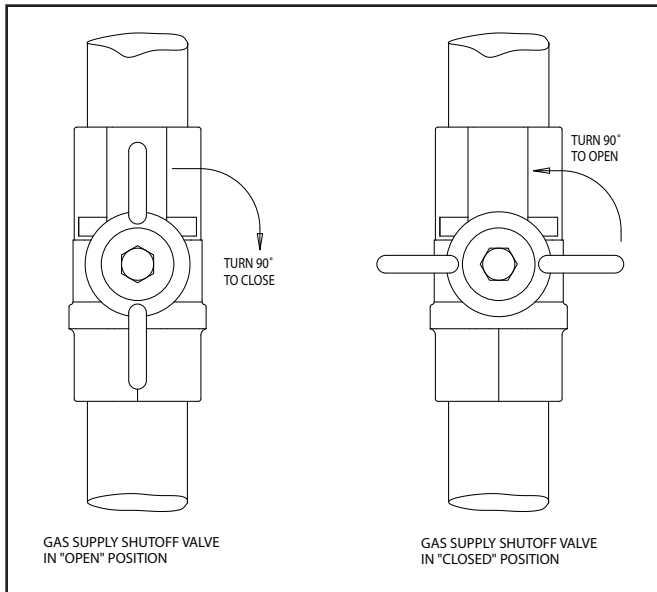

Figure 25. Gas supply shutoff valve operation.
5. Open the gas supply shut-off valve, by turning the handle to be parallel to the gas piping (See Figure 25).
6. Wait five (5) minutes (longer for propane) to clear out any gas, then smell for gas, including near the floor. If you then smell gas, **STOP!** Follow "B" in the safety information above on this page. If you don't smell gas, go to next step.
3. Close the gas supply shut off valve, by turning the handle to be perpendicular to the gas piping. (See Figure 25).